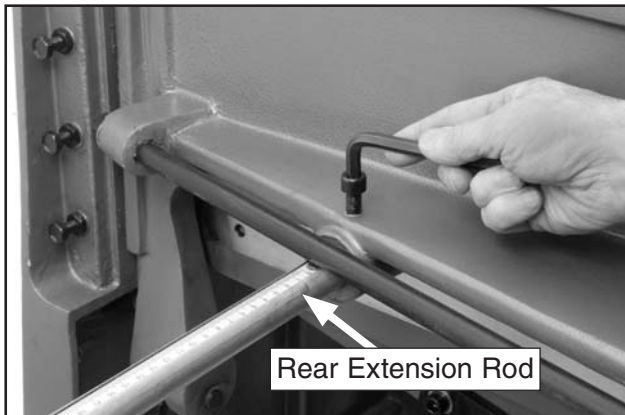

Figure 5. Installing rear extension rod.
2. Tighten the cap screws (**Figure 5**).